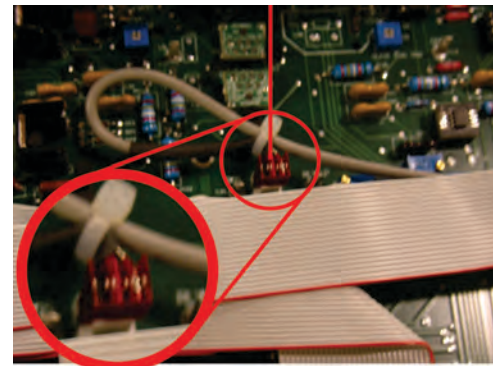

Figure 4.5 – Gain Control Connection on Main Board
1. On the amplifier main board, locate the connector that connects the external gain control to the main board by following the wire leading from the gain control (see **Figure 4.5**).